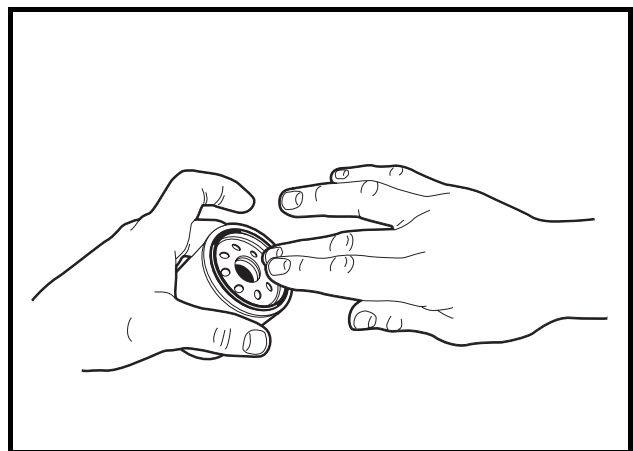

Figure 18 Coat Oil Filter Rubber Seal
11. Install a new oil filter (CCI P/N 1016467) onto the engine oil filter port. Apply a light coat of white lithium NLGI Number 2 grease (Dow Corning® BR2-Plus or equivalent) or new engine oil to the rubber seal around the outside surface of the filter before attaching it to the oil filter port (**Figure 18**). This will help seal the filter to the oil mounting bracket.